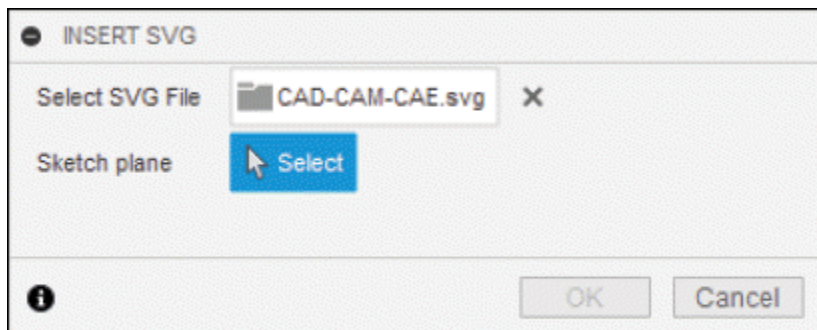

Figure-15. INSERT SVG dialog box
- Select desired file from the dialog box and insert the file as discussed earlier. The **INSERT SVG** dialog box will be displayed with the file selected; refer to Figure-15.